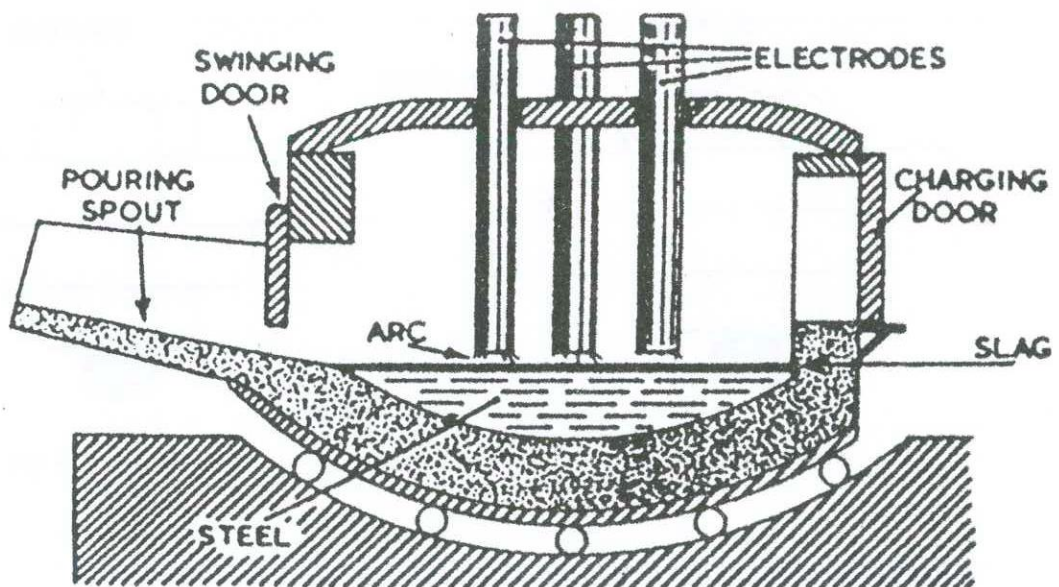

Figure Q1
- b) **Figure Q1** shows an electric arc steel making furnace, describe the process of it. [4.0 Marks]
- d) What are the suggestions to improve the process mentioned in **Figure Q1 (b)**? (Consider the efficiency, wastages, etc.) [2.0 Marks]